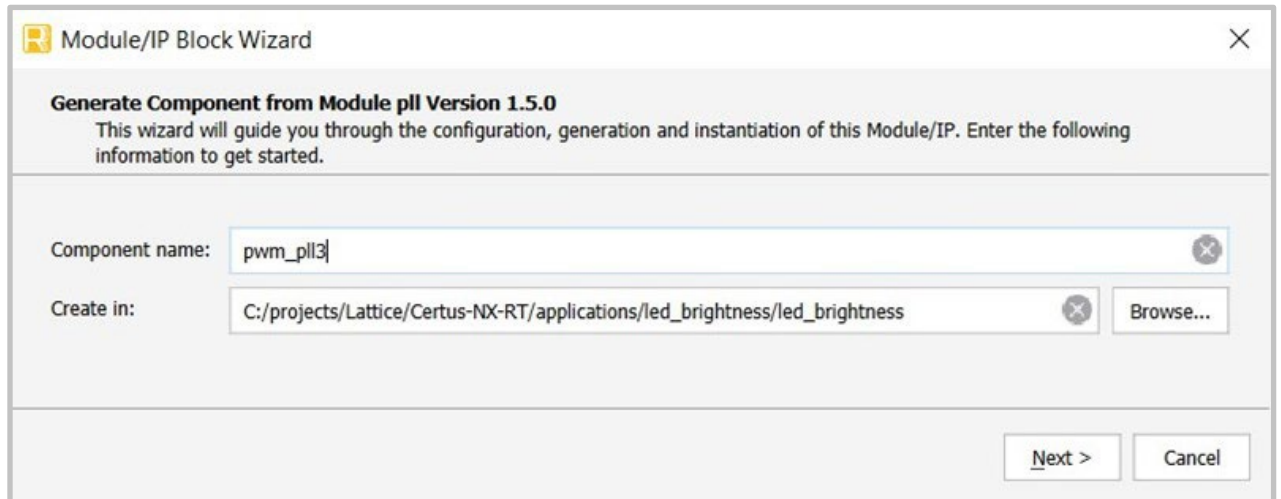

Figure 8: Opening the IP Catalog
8. From IP Catalog, add a PLL with the options below and name it **pwm_pll3**, see **Figure 8** and **Figure 9**.